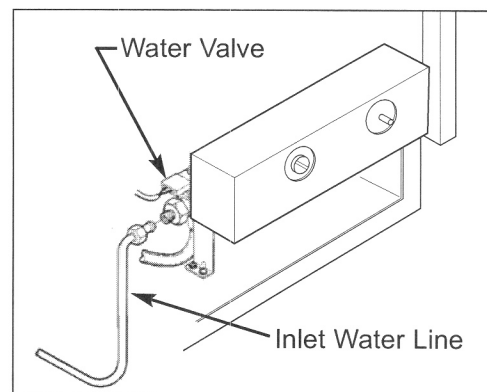

Figure 4-10. Disconnect Water Line
7. Locate the water valve and disconnect the inlet water line from the water valve. (See Figure 4-10)